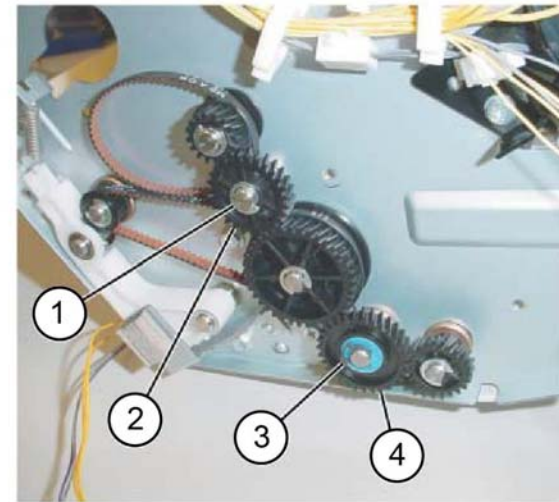

Figure 2 Gear removal
4. Remove the gear, Figure 2:
- a. Remove the E-clip (1).
- b. Remove the gear (2).
- c. Remove the KL-clip (3).
- d. Remove the gear (4).